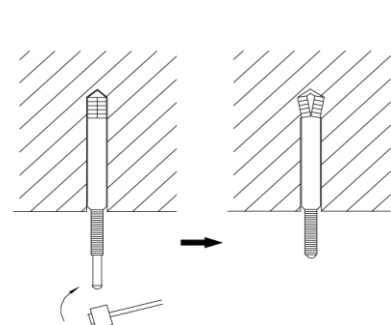

Figure 3-1-42
- (3) Insert the anchor bolts into the drilled holes, and drive the pins completely into the anchor bolts with a hammer (Figure 3-1-42).